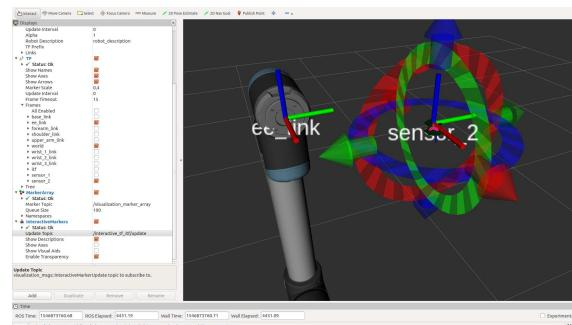

Figure 7.7: Step 3.2
2. In rviz add the “InteractiveMarkers” plugin and select the “Update Topic”. The interactive marker gimbal is shown in rviz (Fig. 7.7). You need to move the visualized skin patch to the correct pose, using the arrows and rings of the interactive marker. Also, activate the Marker Array plug-in to visualize the skin patch in rviz, see Fig. 7.8.